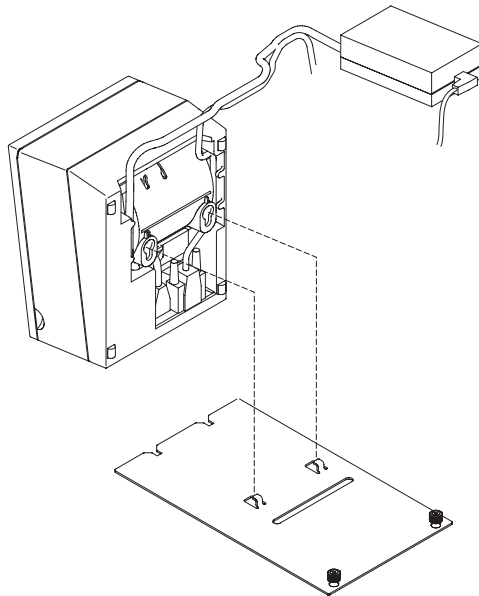

Figure 98. Detaching the 4610 SureMark TF6 printer mounting plate for the non-keyboard integration tray
- b. For the 4610 SureMark TF6 or TF7 printer on a **non-keyboard integration tray**, remove the mounting plate from the printer. See Figure 98 for details.